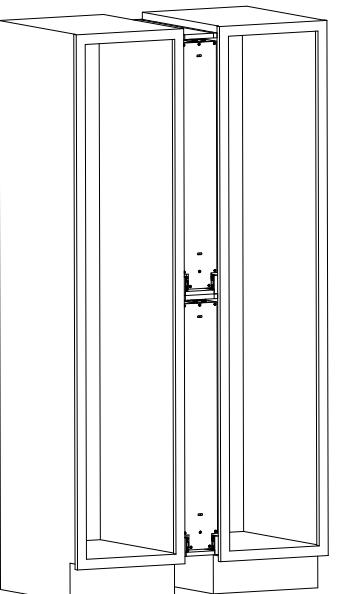

Fig 9
**Step 7.** Mount filler cabinet pull-out to adjacent cabinet 2. (See fig. 9).
(Voir la figure 9).